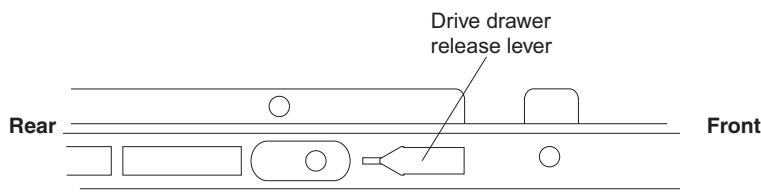

Figure 94. Drive drawer release lever on the side of the drive drawer
- b. Slide the drive drawer release lever (see Figure 94) on both sides of the drive drawer toward you, and remove the drive drawer from the enclosure.